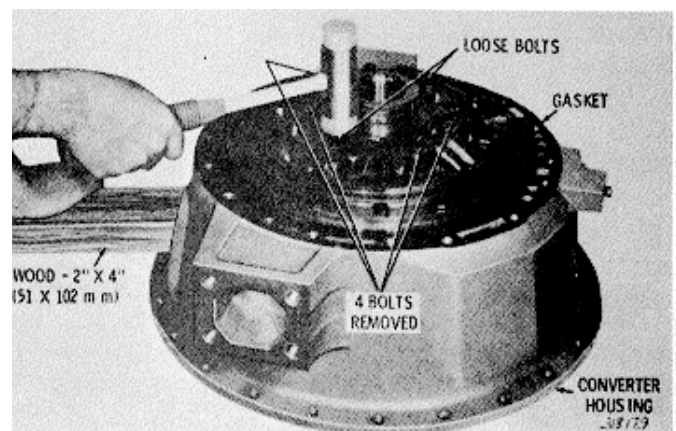

Fig. 6.14. Supporting oil pump during removal.
(2) Place a wood 2 x 4 (51 x 102 mm) through the converter housing access opening, about 14 inches (356 mm) into the housing (fig. 6-14). Remove four of the six bolts retaining the oil pump assembly. Loosen the remaining two bolts, leaving about four turns of thread engaged.
(3) Press on the wood 2 x 4 (51 x 102 mm), and tap alternately on the two loose bolts (fig. 6-14). This will dislodge the oil pump. Remove the bolts, and allow the pump to drop onto the wood support. Remove the pump assembly. Remove the sealring (if present) from the outer circumference of the pump.